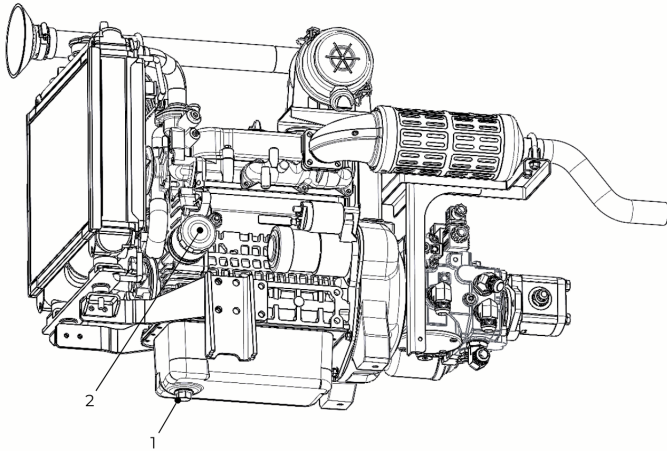

Figure 20. Diesel Engine.
- Loosen and remove the drain plug (1) at the bottom of the engine (see figure 20).
- loosen old oil filter (2) and remove it (see figure 20).